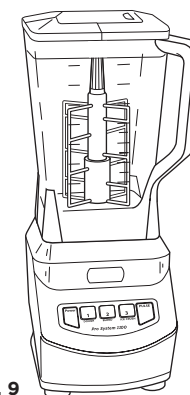

Fig. 9
- 2 Add the ingredients and secure the pitcher lid onto the pitcher. (Fig. 9)